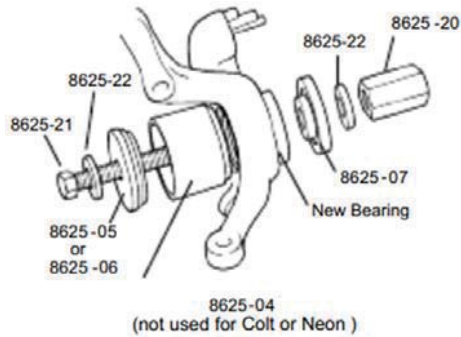

Figure 2
3. Lightly lubricate the new bearing, and position it for installation with the tool components assembled as shown in Figure 2. Press the bearing into the spindle assembly until it bottoms out.